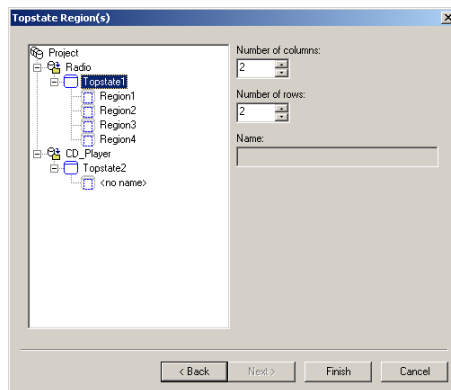

Figure 16: Topstate Region(s) dialog box, Navigator
- 7 Click **Next**. A Topstate Region(s) dialog box is displayed. See *Figure 16*, page 24.